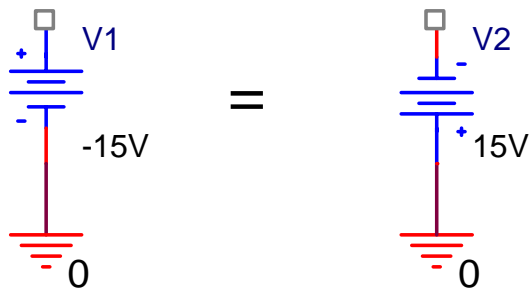

Figure A-3
*Students in JEC 4107 should use the HP E3631A supplies for power.* The HP E3631A power supply provides two variable supplies with a common ground (for  $\pm V_{CC}$ ) plus a variable low voltage supply (not used in this lab.) The power supply jack labeled "COM" between the  $V_{CC}$  supplies should be connected to circuit ground. When you supply power to the op-amp, adjust the two voltage levels so that  $+V_{CC}$  and  $-V_{CC}$  are equal, but opposite in sign, at 9 V. Note that in PSpice, there are two ways to represent a source with a negative sign. Figure A-3 shows the two options: you can either set the voltage source to a negative value, or you can reverse the polarity of the source.